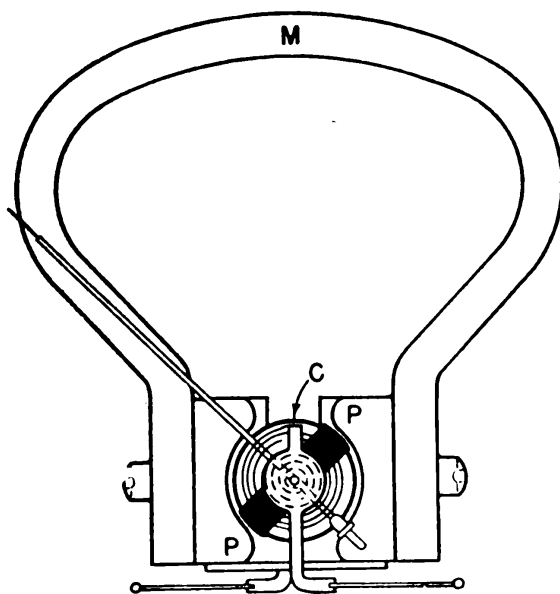

Figure 188.—D'Arsonval type meter.
**U-shaped**, permanent magnet mounted in a stationary frame. Notice, in figure 188, that the pole pieces of this magnet are circular. This shape insures an even distribution of flux from the permanent magnet. In the center of the space between the pole pieces is mounted an iron core—also stationary. This iron core is small so that a small movable coil can turn in the air space between the core and the permanent magnet.
The feeders for the movable coil are the two spiral springs shown in figure 188. They do two jobs—conduct the current to the coil and ACT AGAINST THE COIL'S TORQUE. Thus, the amount of turning produced is proportional to the combined effect of the torque AND the opposition of these springs. As the current increases, the torque becomes stronger and the amount of turn is greater. The indicator needle is carried across the scale as the coil turns.